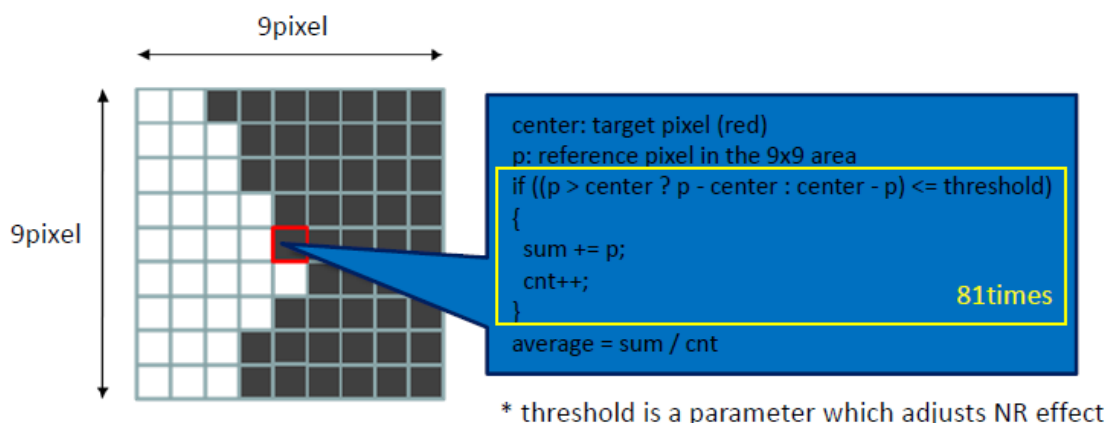

Figure 10-1 Epsilon filter algorithm
In this implementation, the Epsilon filter is applied only to the intensity (Y) component of YUV images, as the noise is mainly visible. Also, it assumes that the Y component is consecutively stored (NV12 format), separated from the UV component. There are two basic steps, as illustrated in Figure 10-1 .